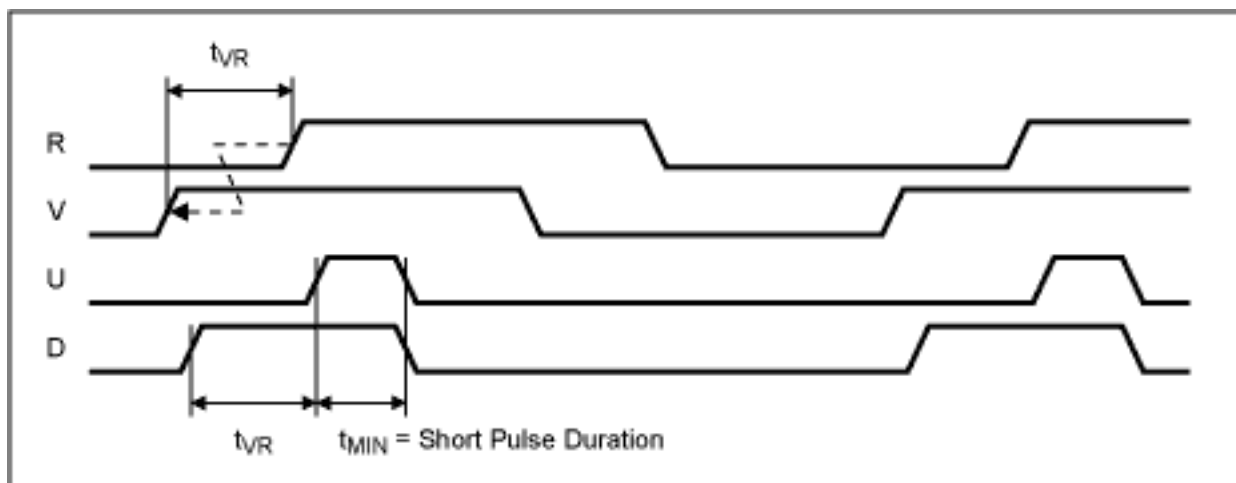

Figure 5. The MAX9382 input and output timing with V leading R.
will be a loop dead-band characteristic about zero phase. This dead-band behavior will subsequently lead to phase offsets and increased output jitter at lock. Some systems employ a deliberate phase offset to bias the phase detector output away from this region. The MAX9382 prevents this type of behavior by providing well defined minimum short pulse widths on the "up" and "down" outputs. The diagram of **Figure 5** shows the input and output timing of the MAX9382 for the case when the VCO signal (V) leads the reference input signal (R). This circumstance produces a series of short pulses on the up (U) output and longer pulses on the down (D) output. The difference in duration between the up and down pulses is the required difference in timing between the V and R input transitions.